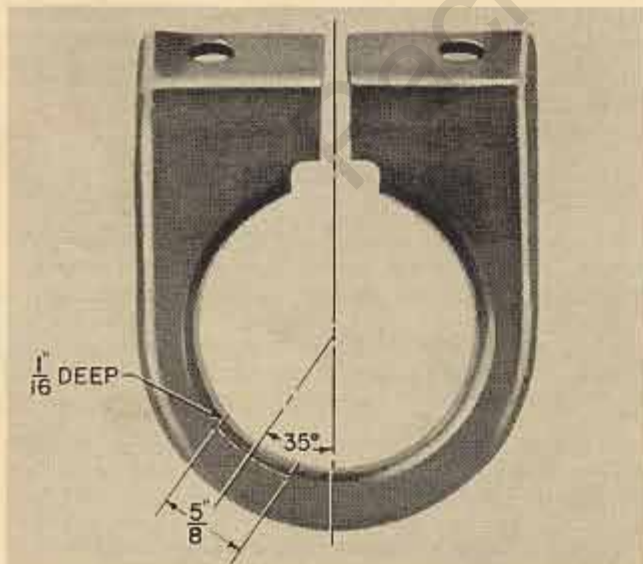

Fig. 1
5. Remove steering column to instrument panel bracket and file out notch to the dimensions indicated by the dotted lines in figure 1.